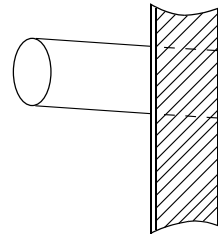

Fig 1
1. Drill a hole in the wall and insert the connecting pipe and wire through a PVC wall-through tube purchased locally. The wall hole shall be with a outward down slope of at least 1/100. (See Figure 1)
- An additional transitive air duct is necessary for the circular air duct to connect to the air supply inlet. It should be also connected to its respective air diffuser separately. See Fig. 1. Adjust the wind speed of each air diffuser outlet to keep in line on the whole, so as to meet a demand of the air conditioner in the room.